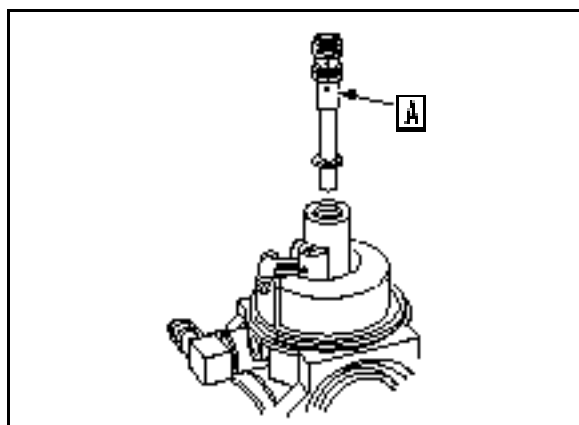

Fig. 104
15. Using carburetor nozzle screwdriver # 19280, remove main carburetor emulsion tube ([A] Fig. 104).